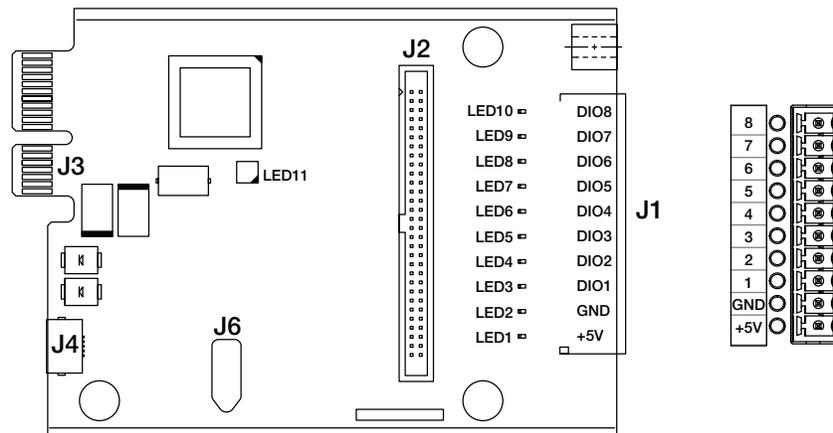

Figure 3. Digital I/O Card
8. Make connections to the option card. See Figure 3 and Table 3.